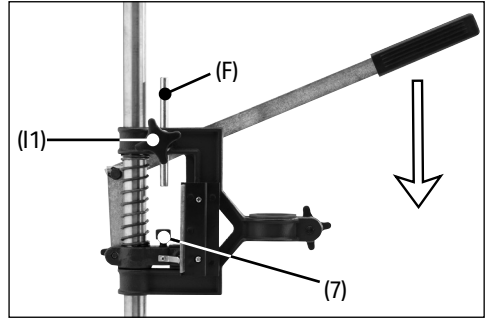

Fig. 9
1. With the drill fitted in the collar, unlock the depth adjustment knob (11) and pull the handle (5) down. (Fig.9)